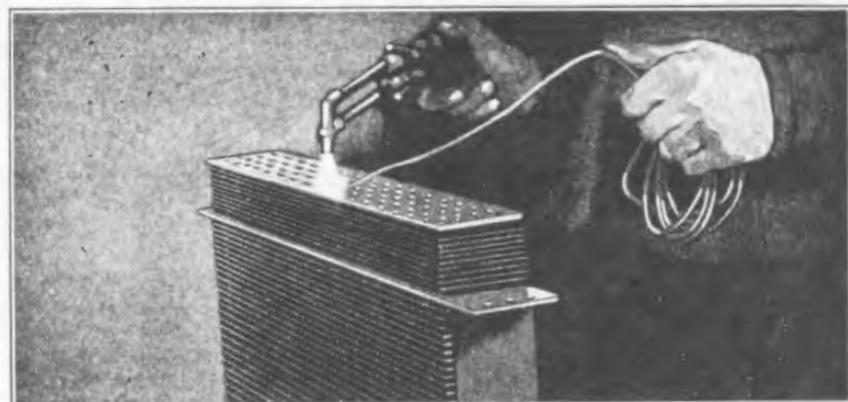

Fig. 401
804 In using the torch, always solder in the direction of the flow of the flame as shown in Fig. 401. The reason for this is two fold. First, it preheats the surfaces saving time in soldering, and, second, it gives the solder a chance to cool after it has flowed into place. Use plenty of acid. Acid applied after the soldering operation is started, while necessary in a number of cases, is never as effective as though enough were put on in the first place. The acid should be used when soldering with the iron, also when soldering with the torch. The iron is used to best advantage in soldering two parallel surfaces. In all other cases the torch is the most efficient.
- 815 Removing the tank disturbs the solder around the tubes in the header. It is therefore advisable to heat the inside of the header, brush off the old solder and rust and reset the tubes before replacing the tank (See Fig. 401).